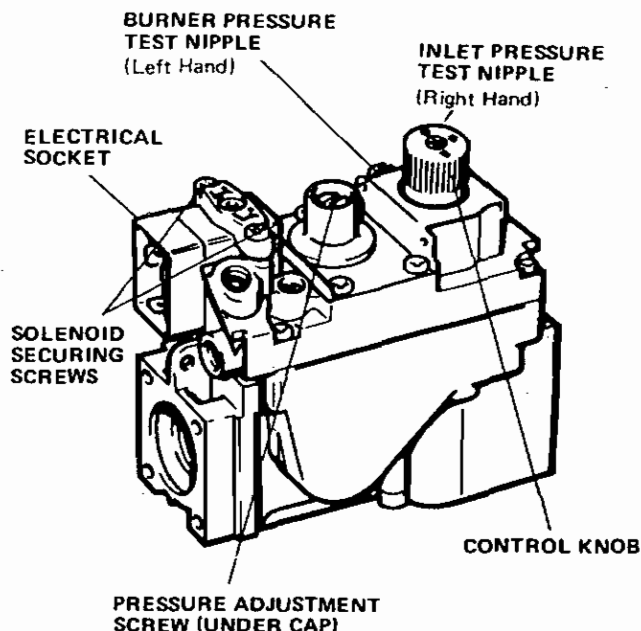

FIG. 10
1. Fit a pressure gauge to the pressure test nipple at the outlet side of the gas valve (see Fig.10).
- A. Fit a pressure gauge to the pressure test nipple at the outlet side of the gas valve (see Fig.10).